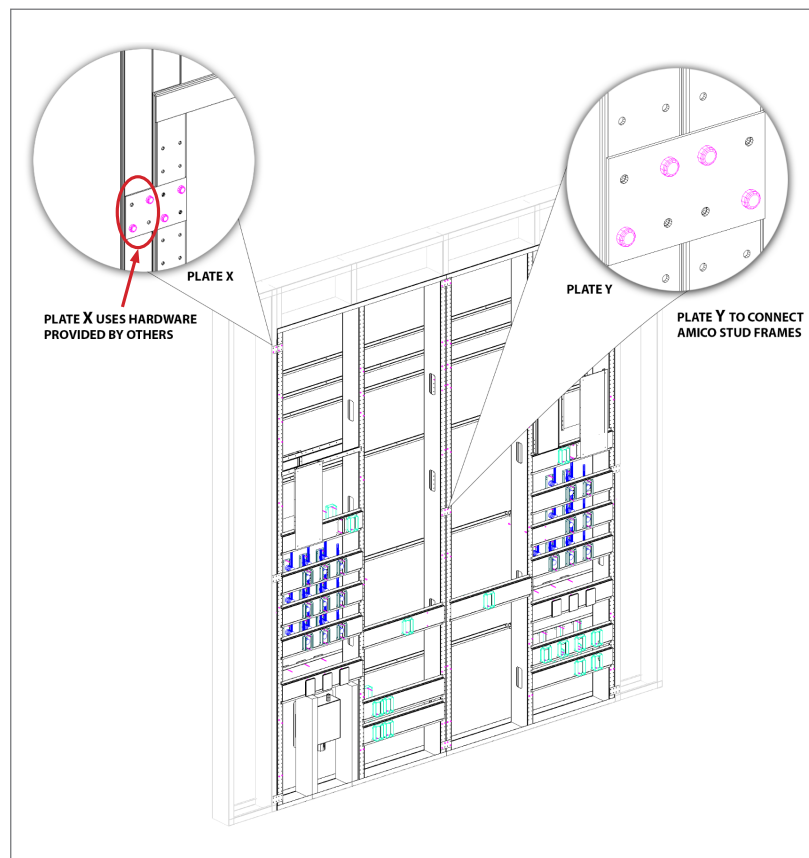

Figure 5: Multiple Stud Frame Installation Diagram
1. Insert stud frame sections into rough-in opening from left-to-right (see **Figure 5**).
2. Connect the stud frame sections at plate locations labeled 'Y' using provided hardware found in nurse call or low voltage box (see **Figure 5**).
4. Once level, ensure units are plumb and secure them to the left and right building studs at plate locations labeled 'X', using hardware provided by others (see **Figure 5**).